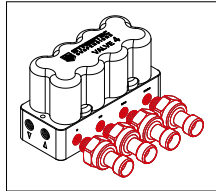

Fig. 14: Valve block
1. Mounting directly into the valve block (Fig. 14)